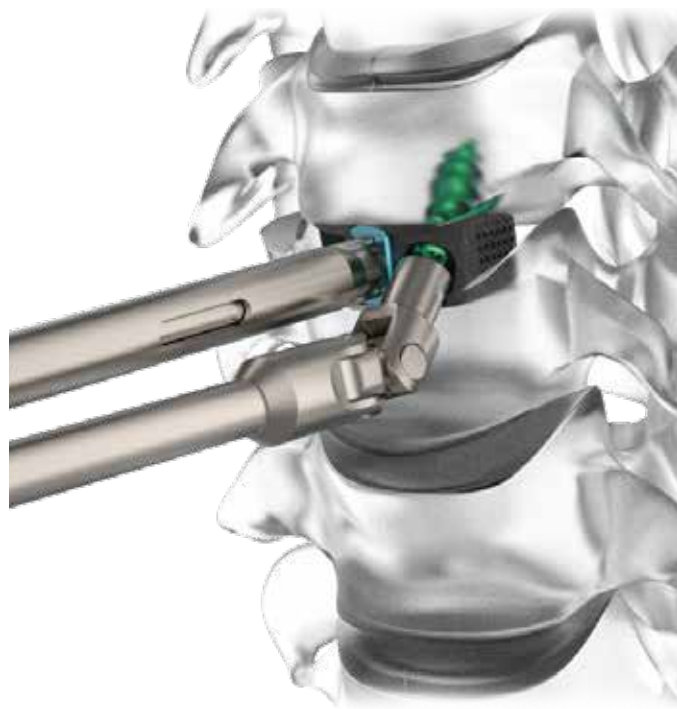

Figure 11
- Guide the attached Screw into the pilot hole and thread until fully seated. Ensure Screw is concentrically centered in Screw Pocket and aligned correctly (Figure 11).